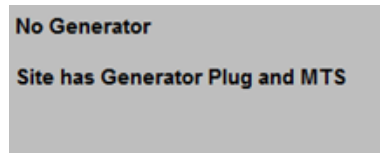

Figure 12 – Emma Well Standby Power information
**Generator Status:** Also on the bottom right part of the screen is a grey-backgrounded information area for the site’s back-up power generation. If a site has a manual transfer switch (MTS) and a generator hookup, like Emma Well does, this standby power information will be shown here. This can be seen in Figure 12. As Guelph Water has 35 different facilities, having this information readily available on the HMI overview screen for each facility is a helpful reminder for operators.